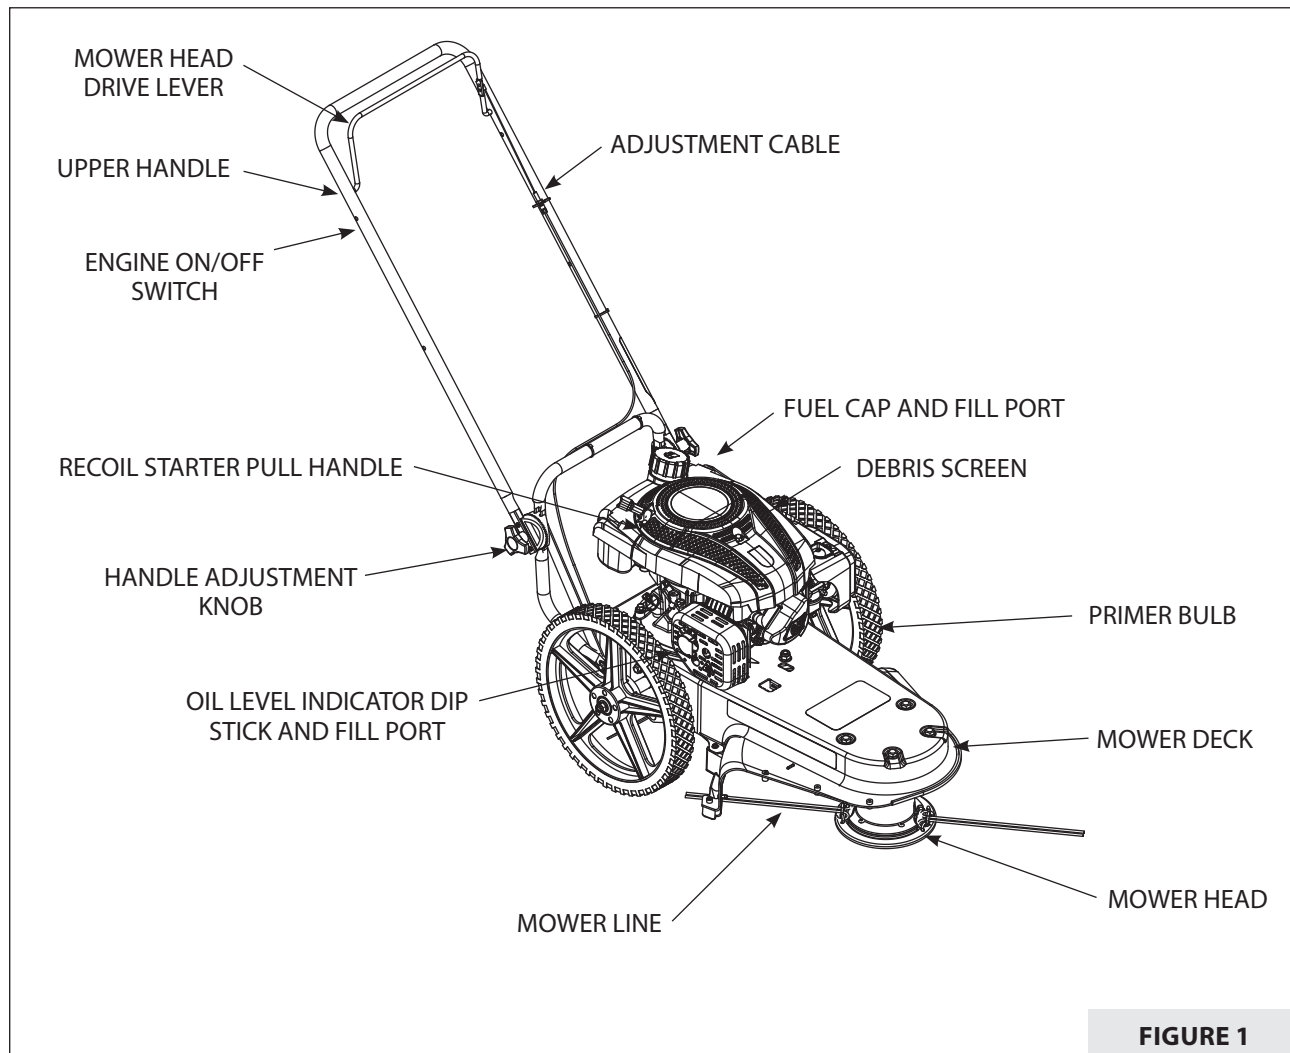

FIGURE 1
Read this owner's manual and safety rules before operating your mower. Take time to compare the following illustration with the mower to familiarize yourself with the product and its controls. **SEE FIGURE 1.**
1. Before each use, remove debris from the debris screen. **SEE FIGURE 1 IN "FEATURES" SECTION.** Debris can cause the engine to overheat. Wipe the debris screen with a cloth or paper towel.